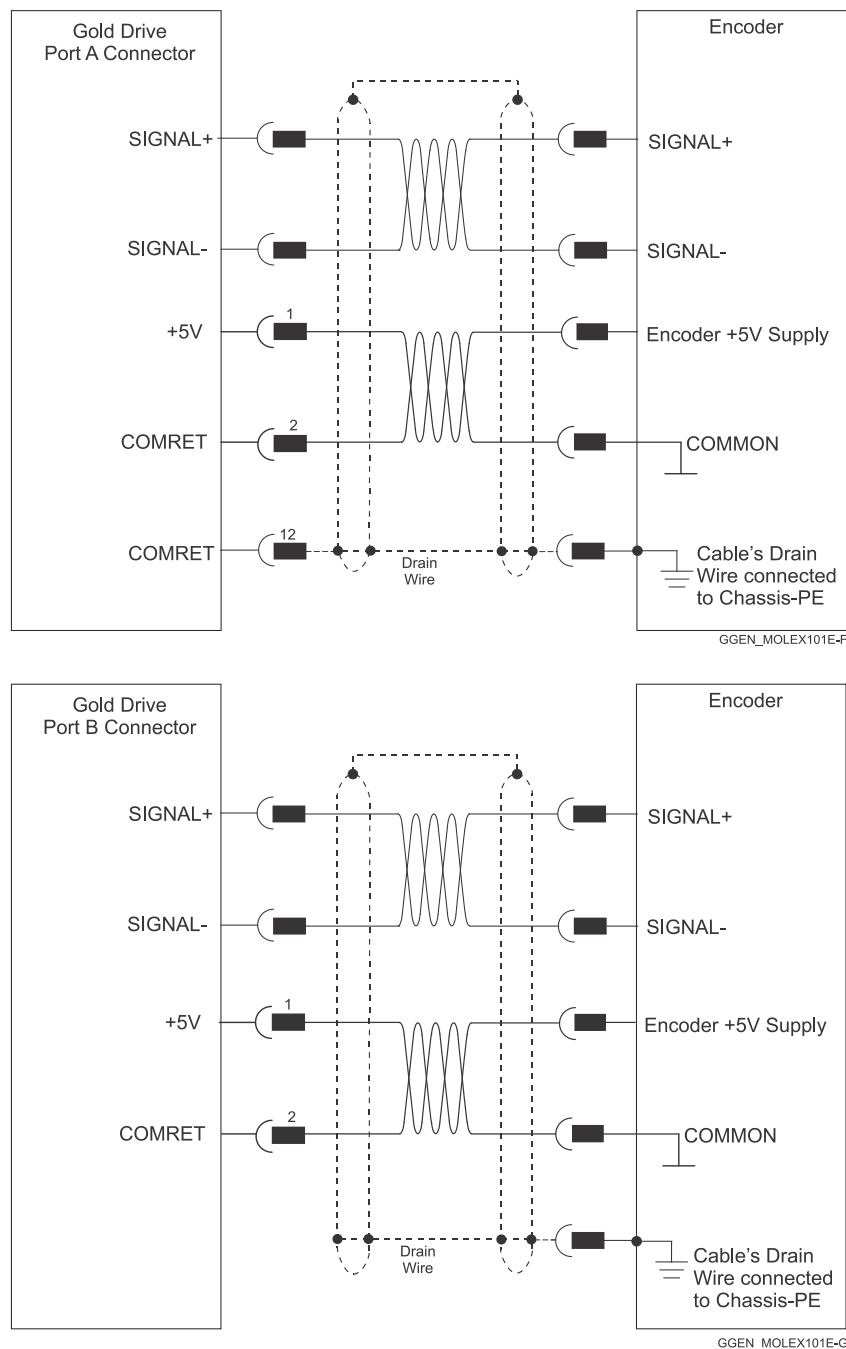

Figure 8: Feedback Port A and B Cable Assemblies
- a. At the drive, connect the feedback drain wire to one of the COMRET terminals in the Shrouded feedback connector (Figure 8).
- b. At the motor, connect the feedback cable drain wire to the GND motor chassis terminal of the feedback connector (Figure 8).